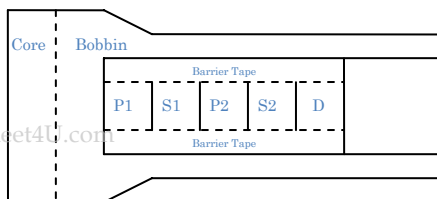
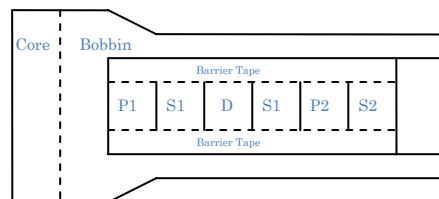

Figure5 Winding structure example1
Figure6 Winding structure example2
Shown in figure5, figure6 is the reference example of the scroll position of a winding D.
- Separate distance with winding D and primary winding P (figure5)
- Structure to sandwich winding D in second side control winding S (figure6)